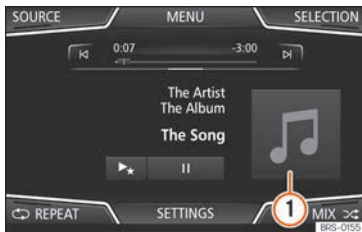
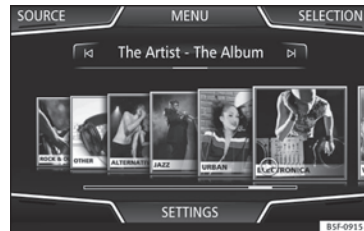
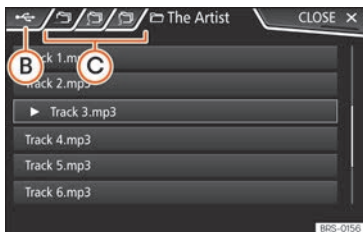

Fig. 189 MEDIA main menu.
Fig. 190 Selection by cover.
Fig. 192 Media Mode: list of tracks of a Media source.
Clicking on the current cover » **Fig. 189** **1** will display all of the album covers available in the active Media source » **Fig. 190**.
• Press the **SELECT** function button on the **MEDIA** main menu » **Fig. 189** to open the track list. The track that is playing is highlighted » **Fig. 192**.